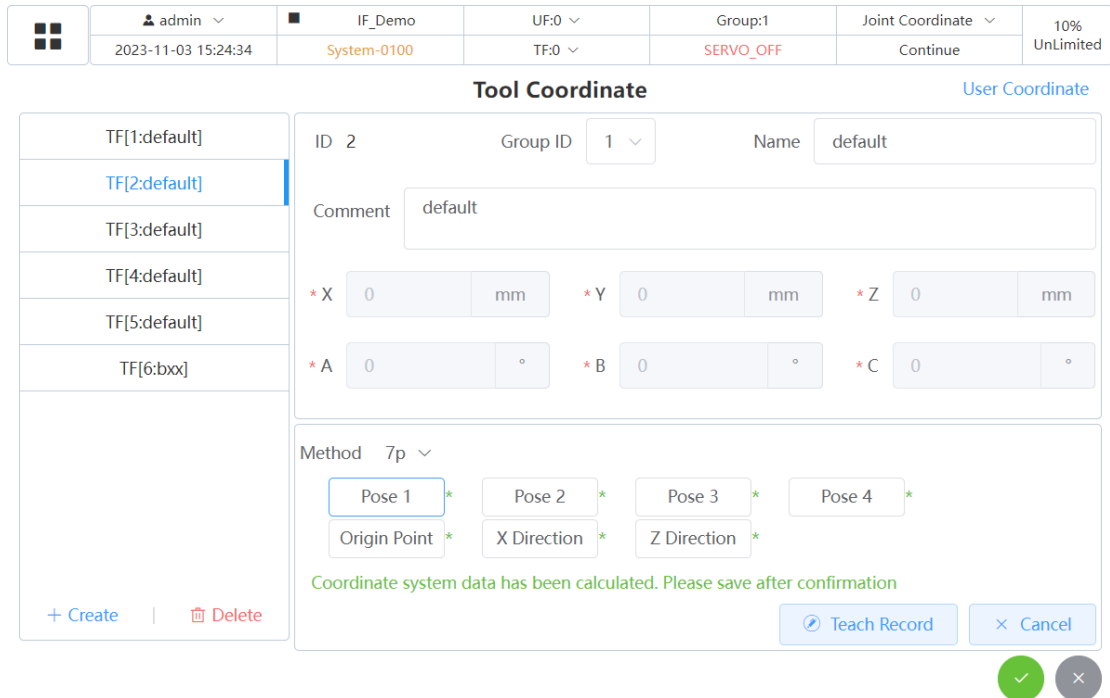
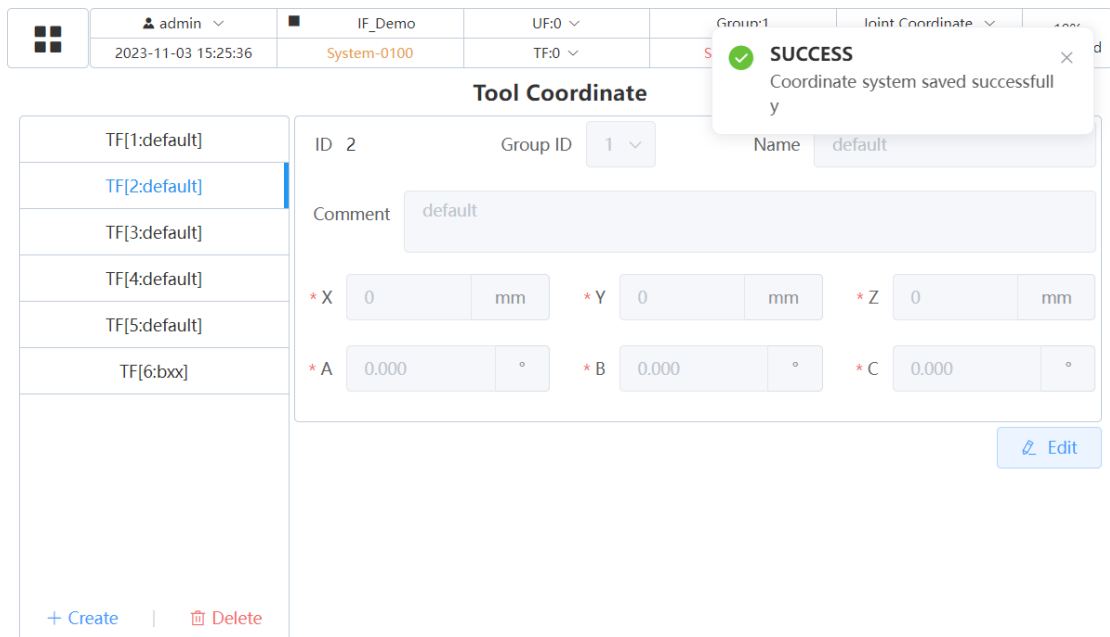

Fig. 2.17 Tool Coordinate System Setting Interface 5
Fig. 2.18 Tool Coordinate System Setting Interface 6
5. After teaching of 7 poses, a prompt will be displayed stating "Coordinate system data has been calculated. Please save after confirmation". At this time, click in Fig. 2.17, and it may prompt "Coordinate system saved successfully", as shown in Fig. 2.18. At this time, the tool coordinate system has been set.